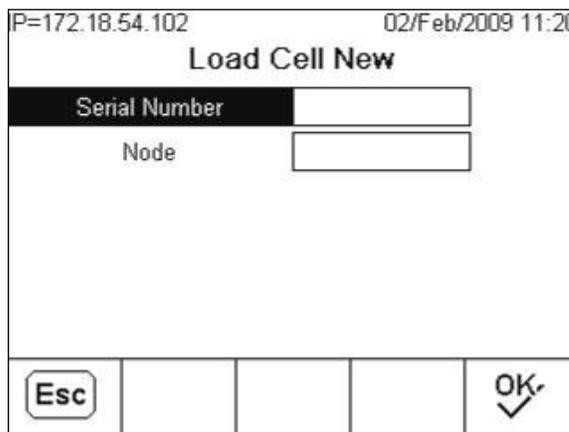

Figure 3-18: Manual Address Load Cell New Screen, PDX
- To address a newly added cell into the network, simply press the NEW softkey **⏏** from the Load Cells View Screen. Enter the cell's serial number and the required node address into the entry boxes shown in the Load Cell New screen (Figure 3-18) then press the OK softkey to complete the new cell addressing.